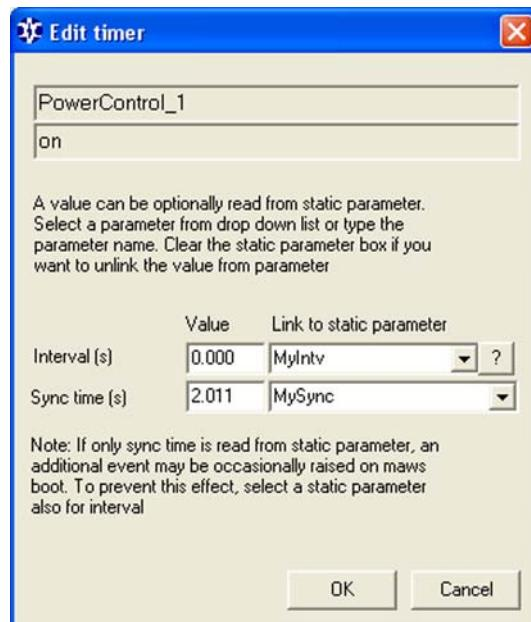

Figure 67 Edit Timer Window
2. Right-click the timer to be modified either in the **Interval** or the **Synch time** column. Select **Advanced edit** from the list. The **Edit Timer** window opens, see Figure 67 on page 153.